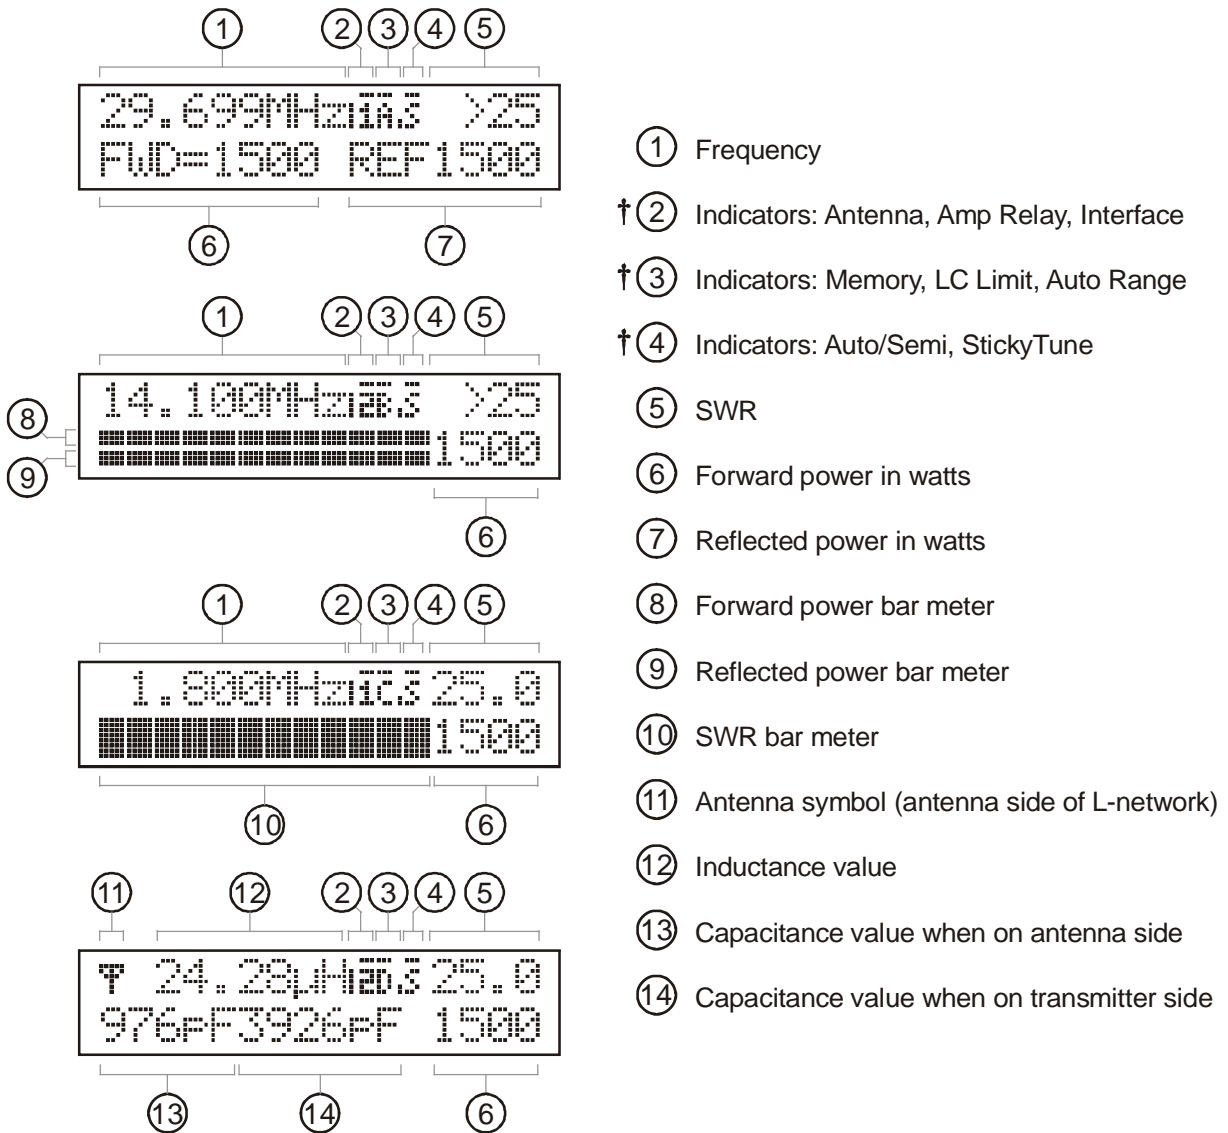
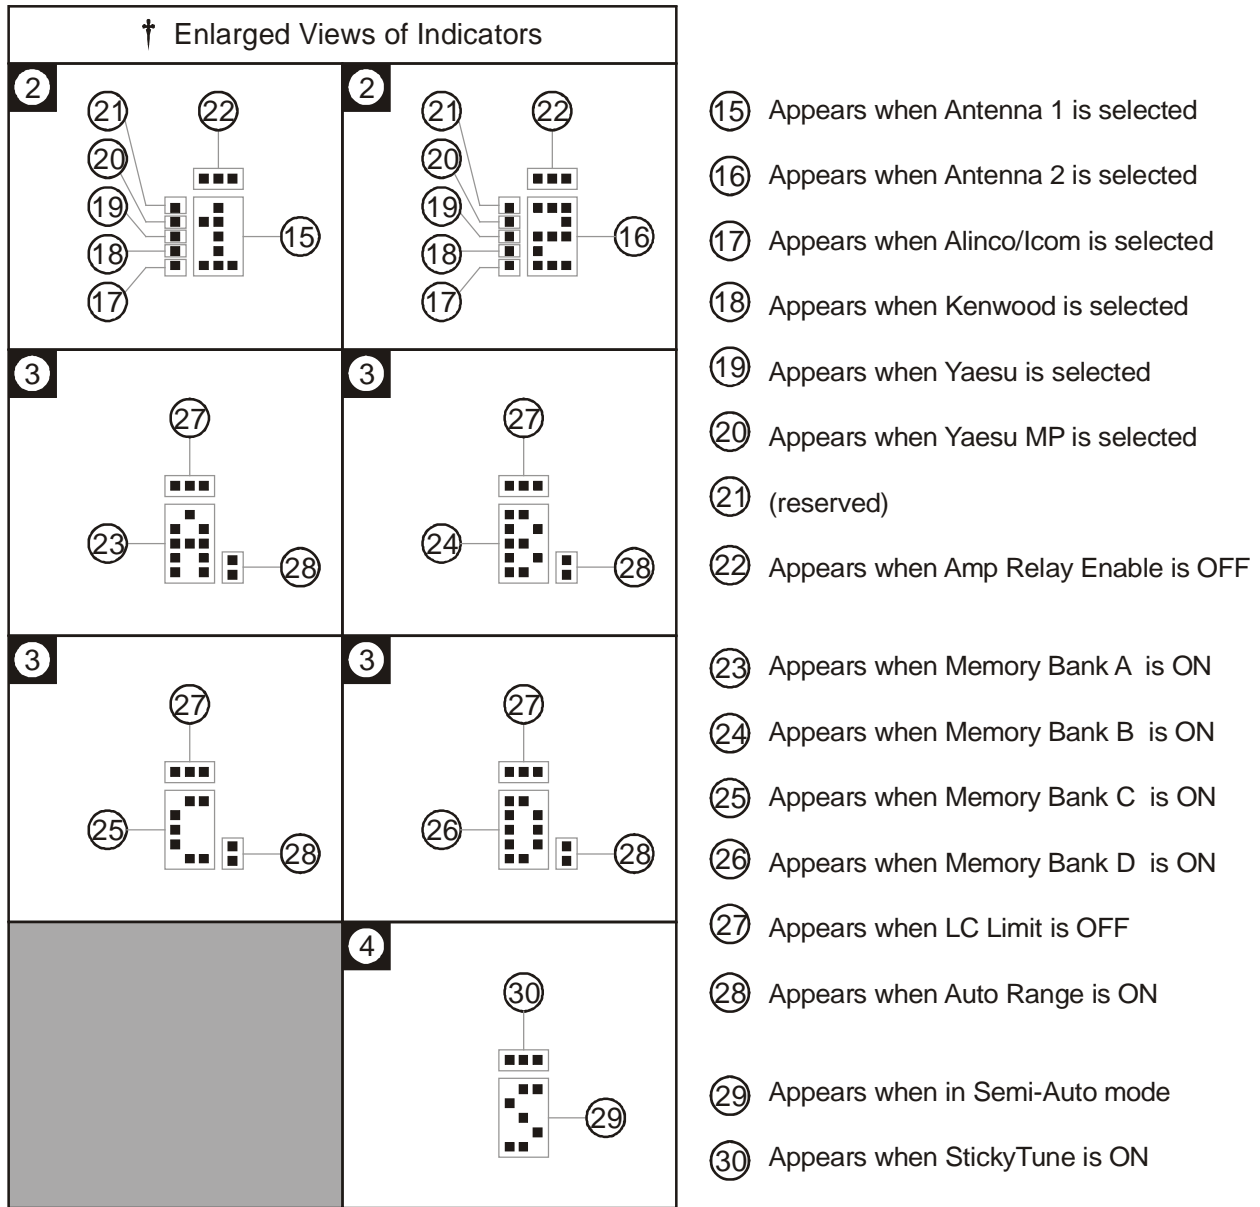

Figure 16. Main Mode Menus Display.
Figure 17. Tuner Indicators.
Pressing [TUNE] and [ANT] simultaneously toggles between automatic and semi-automatic tuning mode. In automatic mode, the tuning routine is automatically started when at least five watts of power is applied and the SWR is a preset amount above the preset target SWR. In semi-automatic mode, the tuning routine starts only when the [TUNE] button is pressed for 0.5 to 2 seconds. The Auto/Semi indicator on the main display indicates the selected mode. Refer to Figures 16 and 17 for the on-screen Auto/Semi indicator.
greater than 60 watts automatically sets the meter to the high power range. Forward power less than 250 watts and reflected power less than 40 watts automatically set the meter to the low power range. When auto range is enabled, a two-dot vertical segment appears in the lower right corner of the Auto Range indicator on the main LCD screen. Refer to Figures 16 and 17 for the on-screen Auto Range indicator.
The main mode menus show various tuner settings and status. There are four main mode menus arranged in a “wrap-around” structure. When powered on, tuner operation starts with the main menu that was last used. Within each main menu, press the [MODE] button briefly to view the next main menu. Press and hold the [MODE] button for two seconds to enter the setup mode (see below). Various tuner indicators are shown on all four main menus: Antenna 1/2, IntelliTune™, Radio Interface, Memory, LC Limit, Auto Range, Auto/Semi, and StickyTune™. Refer to Figures 16 and 17 for details on the displayed information.
The power meter default condition is auto range. Auto range automatically sets the meter scale according to the input RF power to the tuner. Forward power greater than 300 watts or reflected power greater than 60 watts automatically sets the meter to the high power range. Forward power less than 250 watts and reflected power less than 40 watts automatically set the meter to the low power range. When auto range is on, a two-dot vertical segment appears on the on-screen tuner indicator. Refer to Figures 16 and 17 for the on-screen Auto Range indicator.
Various tuner indicators are shown on the main menus to indicate tuner status. Refer to Figures 16 and 17 for locations of these indicators. The number enclosed within () is the item number of Figure 17.
Note: Pressing [MODE], [L-UP] and [L-DN] simultaneously toggles the Amplifier Bypass Control[™] feature ON and OFF; and disables the StickyTune[™] mode, if enabled. Refer to Figures 16 and 17 for the on-screen Amp Relay Enable indicator. If this feature is turned OFF (not recommended), it will be re-set to ON whenever power is cycled.
Allows you to select the meter scale range. In the 300 watts (low) range, the forward full scale is 300 watts and the reflected full scale is 60 watts. In the 3000 watts (high) range, the forward full scale is 3000 watts and the reflected full scale is 600 watts (multiple the meter reading by 10). Auto range automatically sets the meter scales according to the input RF power to the tuner. Forward power greater than 300 watts or reflected power greater than 60 watts automatically sets the meter to the high power range. Forward power less than 250 watts and reflected power less than 40 watts automatically set the meter to the low power range. Refer to Figures 16 and 17 for the on-screen Meter Range indicators. Default is AUTO Range.
The memory resolution for non-amateur frequency bands between 160 and 10 meters is approximately 0.2 percent of the lower frequency of each band. There are over 2500 memory locations for each memory bank, and each antenna has four memory banks (A-D). Tuner settings are stored in memory separately for Antenna 1 and Antenna 2 (settings for single-wire antenna are stored as Antenna 1). This provides memory for up to eight different antennas. Refer to Figures 16 and 17 for the on-screen Memory indicator. Defaults are memory banks 1A and 2A ON.
The upper limits of inductance (L) and capacitance (C) are factory-limited according to frequency and maximum power rating; i.e., higher frequencies need less inductance and less capacitance when the L-network is properly tuned. Pressing [C-UP] and/or [L-UP] allows capacitance and inductance to be increased only to these limits. When a selected capacitance or inductance is higher than its allowed limit, and the frequency is changed, that selection is automatically reduced to the value of its limit. These limits are used to prevent matching of extreme load impedance outside the tuner's specification, which may result in excess voltage and/or current across the tuner's components. This setting is not stored in non-volatile memory and reverts back to the default when the tuner power is cycled. Refer to Figures 16 and 17 for the on-screen LC Limit indicator. Default is ON.